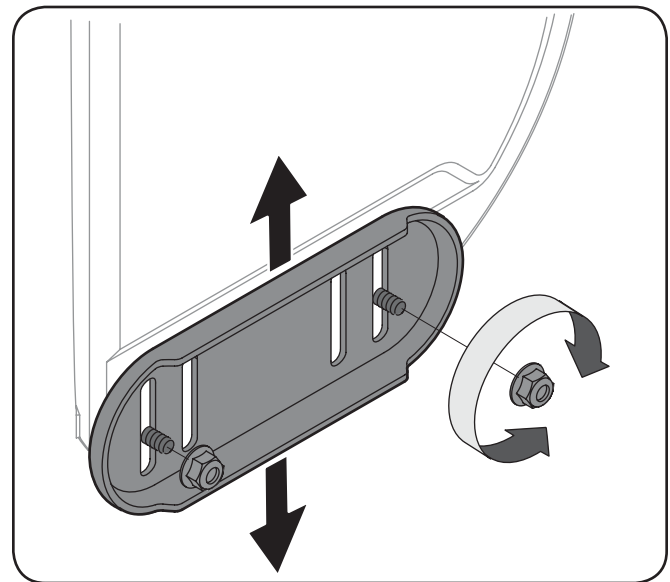

Figure 3-13
1. Loosen the four hex nuts (two on each side) and carriage bolts. Move the skid shoes to the desired position. See Fig. 3-13.